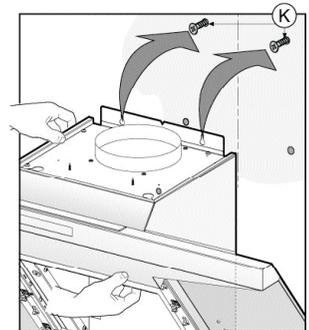

Fig.7
- Place the appliance against the wall align it in a horizontal position and tighten screws K (fig 7).